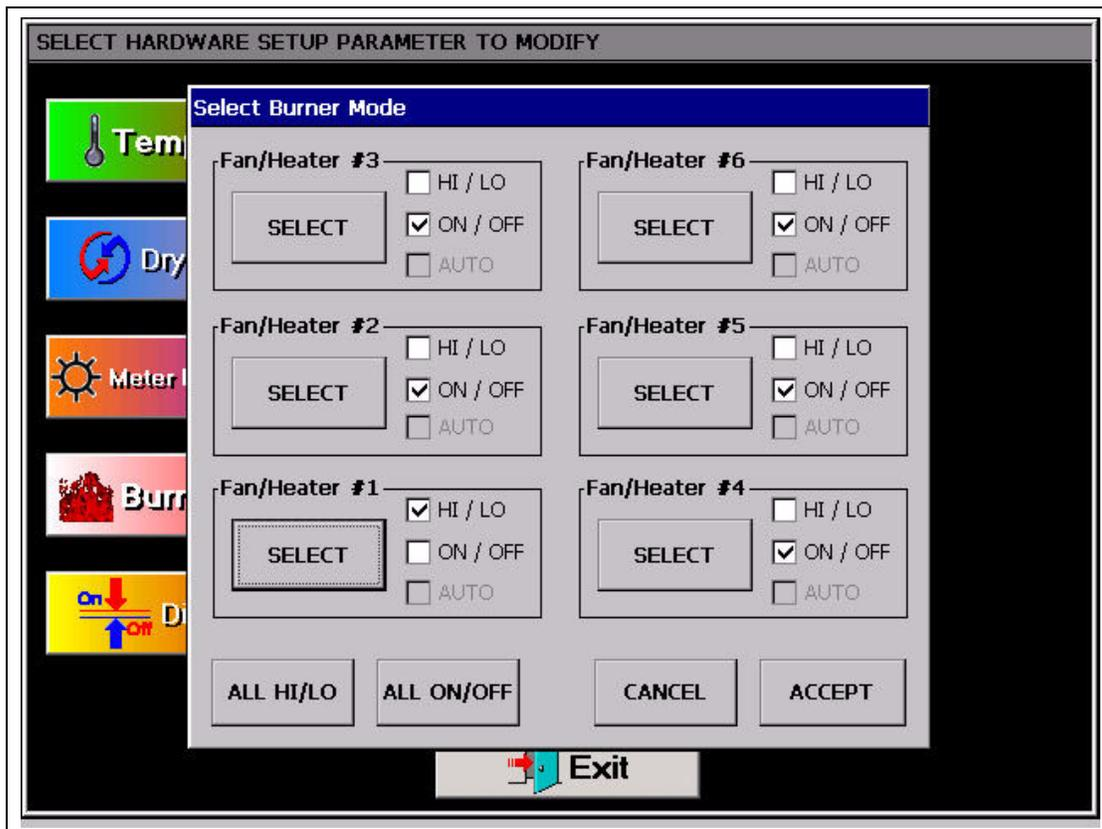

Figure 6H
7. **Burner mode:** Touching the Burner Mode button will display the Select Burner Mode screen. \(See Figure 6H.\) Tower dryer burner mode should always be set to ALL HIGH\LOW.